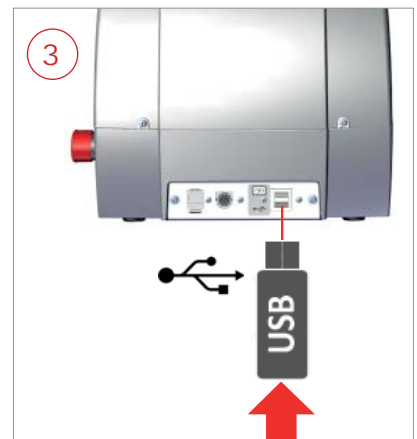

Fig. 13
- 3) Insert the USB PEN DRIVE into the special port on FUTURA EDGE (Fig. 13). Follow the instructions on the screen: tap the “RE-START FUTURA” button to re-start the FUTURA EDGE machine.